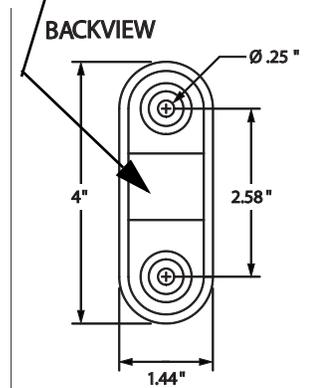

Figure 14.
2. Mounting of monitor arm requires as shown in Figure 14.